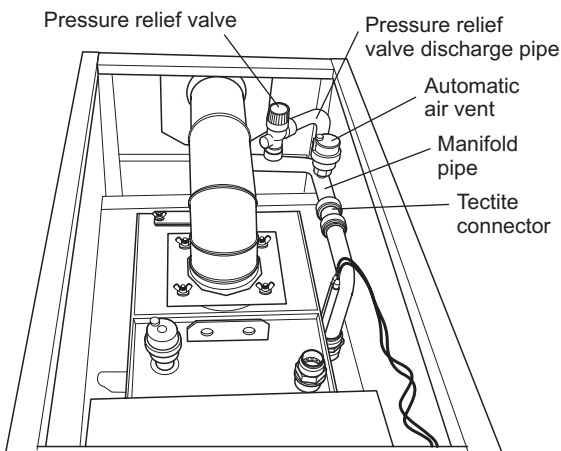

Fig. 2 - Top view (showing automatic air vent, pressure relief valve and manifold)
5. Fit the pressure relief valve and automatic air vent onto the manifold pipe. Then push fit the manifold pipe end into the 22mm Tectite connector on the boiler flow pipe. Refer to Fig. 2.